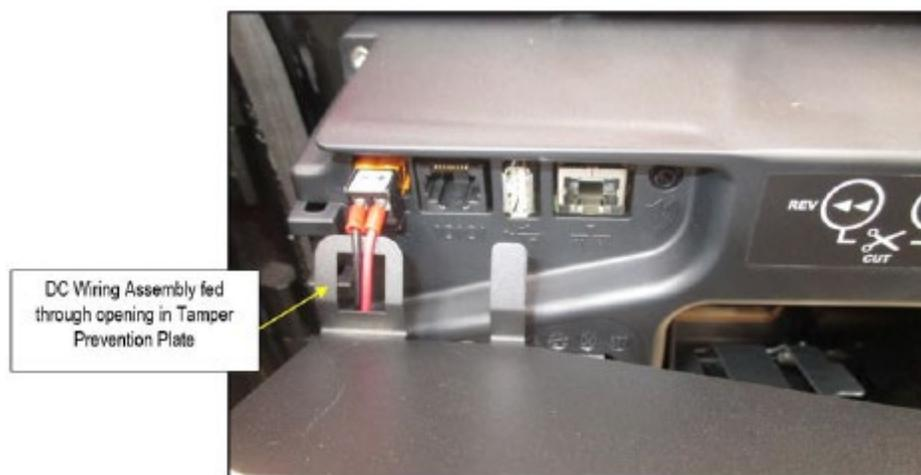

Figure 84
- 37) Feed the open end of the DC wiring assembly cable through the opening on the tamper prevention shield and plug it into the OPT Terminal labeled "VDC." See Figure 84